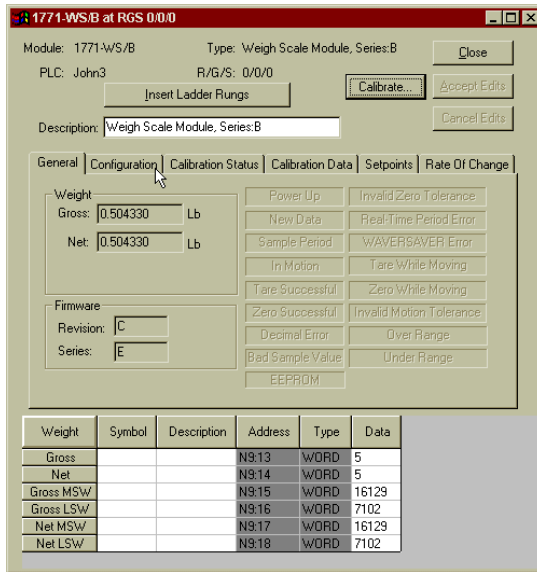
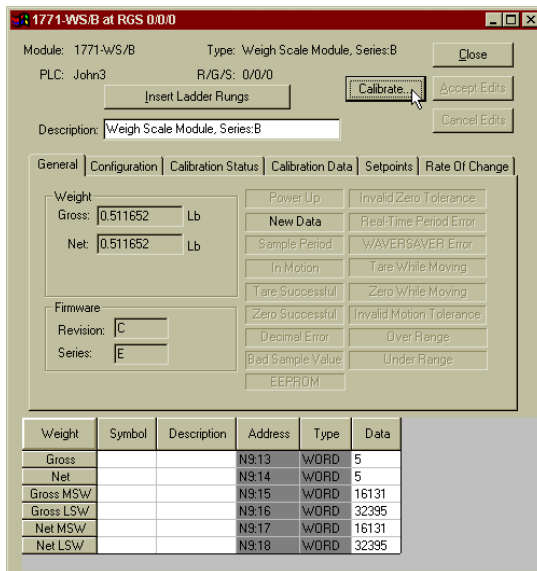

FIG. 6-1 HI 1771-WS MODULE DISPLAY/SELECTING CONFIGURE TAB
FIG. 6-2 SELECTING CALIBRATE BUTTON
- Step 1. On the HI 1771-WS Module display, click on the Configuration tab. (See Fig. 6-1) The configuration display appears. (See Fig. 6-2)